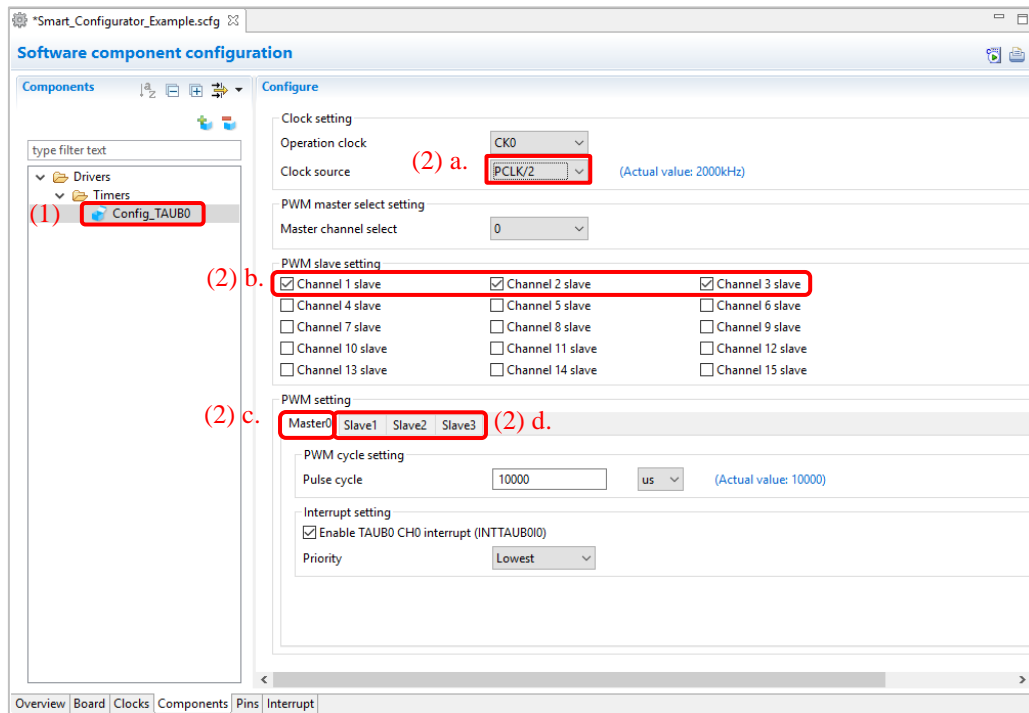

Figure 4-18 Component Configuration Settings
- (1) Click the component in the component tree (for e.g., Config_TAUB0).
- (2) Configure the driver in the [Configure] panel to the right of the Components tree. The Figure 4-18 is an example.